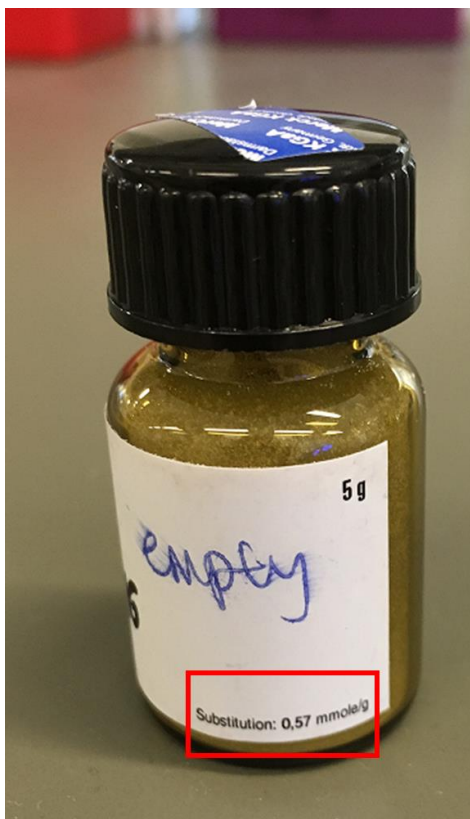

Figure 13: Pre-loaded resin with substitution stoichiometry indicated
3. Enter the synthesis scale chosen in your method and the loading stoichiometry (mmole/g) from the resin bottle (Figure 13), note the mass of resin required. Repeat for each sequence to be synthesized.